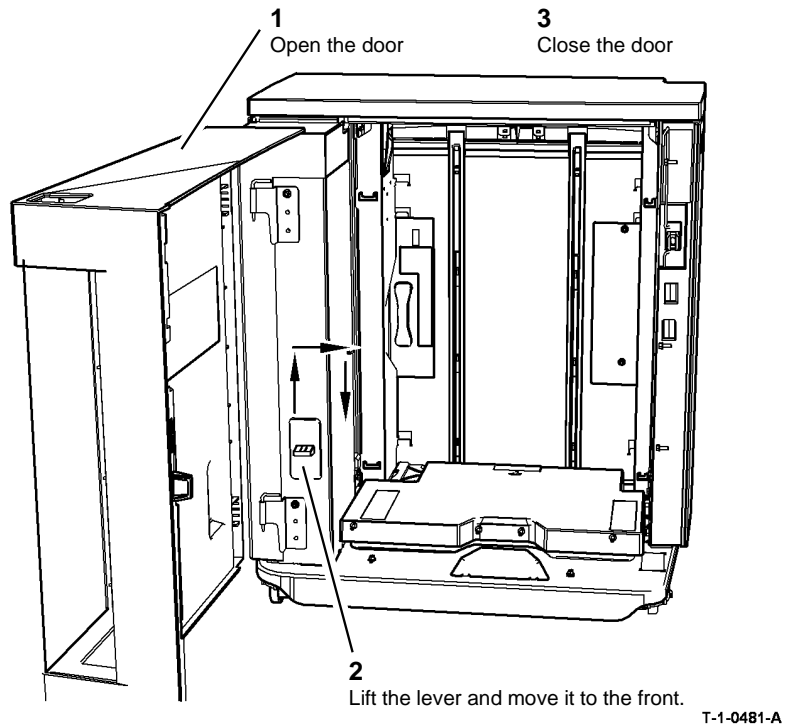

Figure 1 Transit lock engage
- Engage the transit lock, Figure 1.